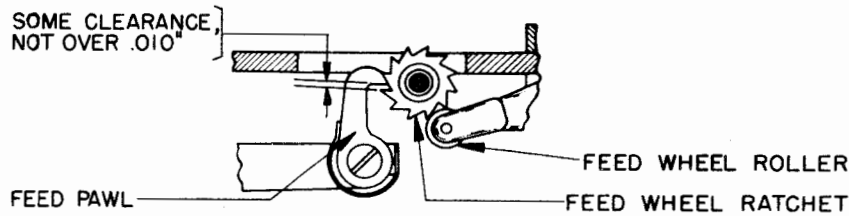

Figure 25
3.13 Operating Lever Adjusting Screw: When the operating lever roller (Figure 1) is on the highest part of its cam and the detent roller rests between two teeth on the feed-wheel ratchet, there shall be some clearance, maximum 0.010 inch, between the face of a tooth on the ratchet wheel and the face of the feed pawl. (See Figure 25.)